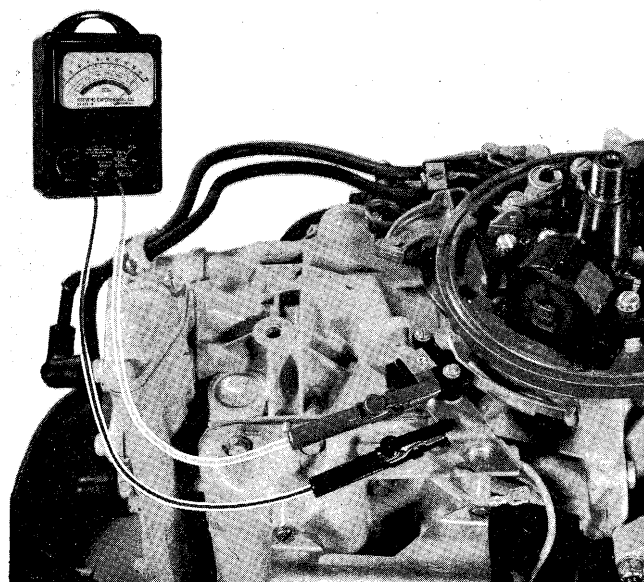
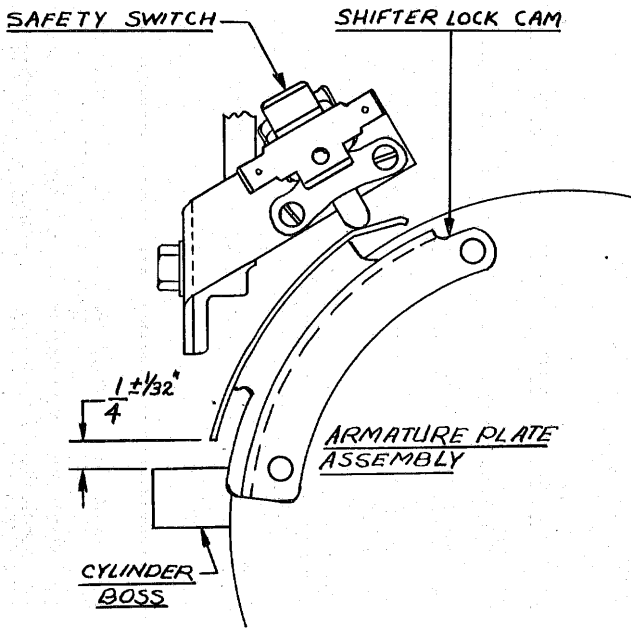

Figure 7
Figure 8
2. Attach leads of continuity meter to safety switch, one lead to terminal normally occupied by electrical lead, the other to safety switch bracket (Figure 7).
4. Advance armature plate slowly and stop the moment meter needle drops off to a “no continuity” reading (Figure 7). End of shifter lock stop should now be 1/4” from boss on cylinder (Figure 8). If this dimension is off, adjust switch and re-check setting until specified dimension is attained.